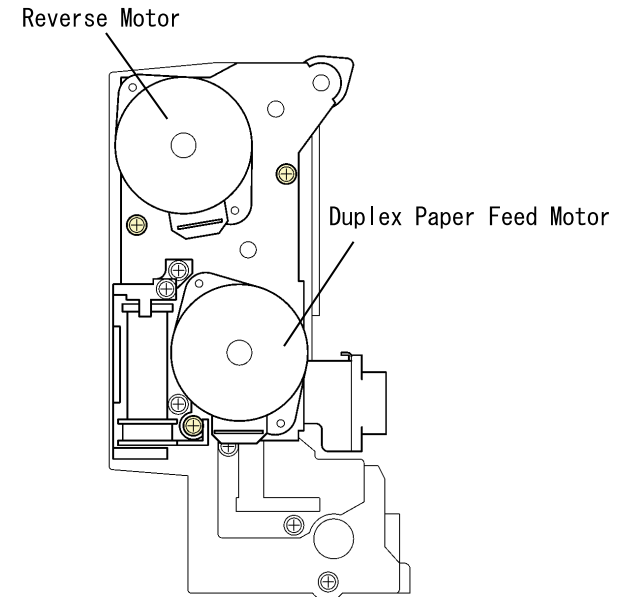

Figure 4-71. Reverse Motor / Duplex Paper Load Motor
3. Remove 2 screws securing the Duplex Paper Load Motor. (See Figure 4-71. "Reverse Motor / Duplex Paper Load Motor" on page -159.)